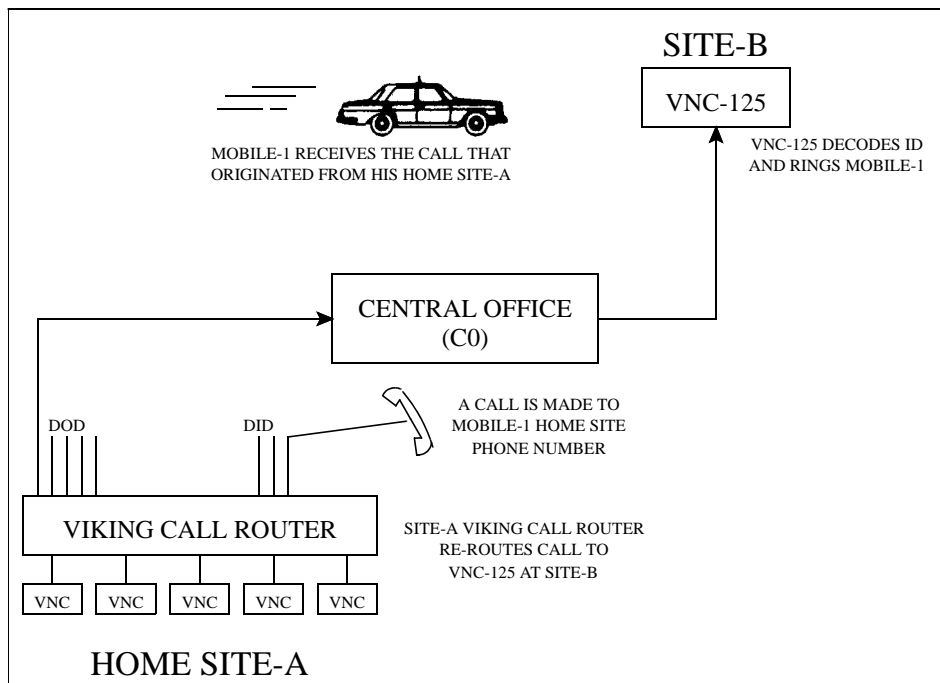

Figure 6-22 ROAMER LANDSIDE CALL TO MOBILE
4. A landline caller dials the 7-digit phone number for Mobile-1. The Site-A Viking Call Router decodes the number and recognizes it as the ID for Mobile-1 and the Mobile-1 has checked in at Site-B (see Figure 6-22).